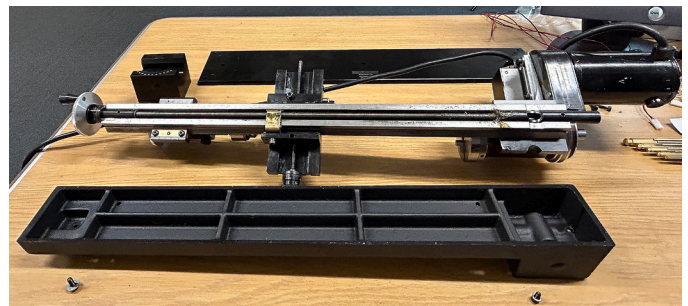

FIGURE 3—The cast base removed from the lathe assembly.
3. Remove these two mounting screws and pull the base off of the lathe assembly. (see Figure 3)